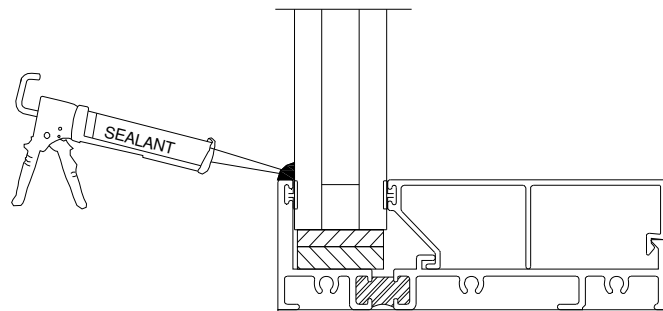

Figure 16:
2. After glazing, apply a continuous bead of sealant to the outer edge of the flange (Figure 16).